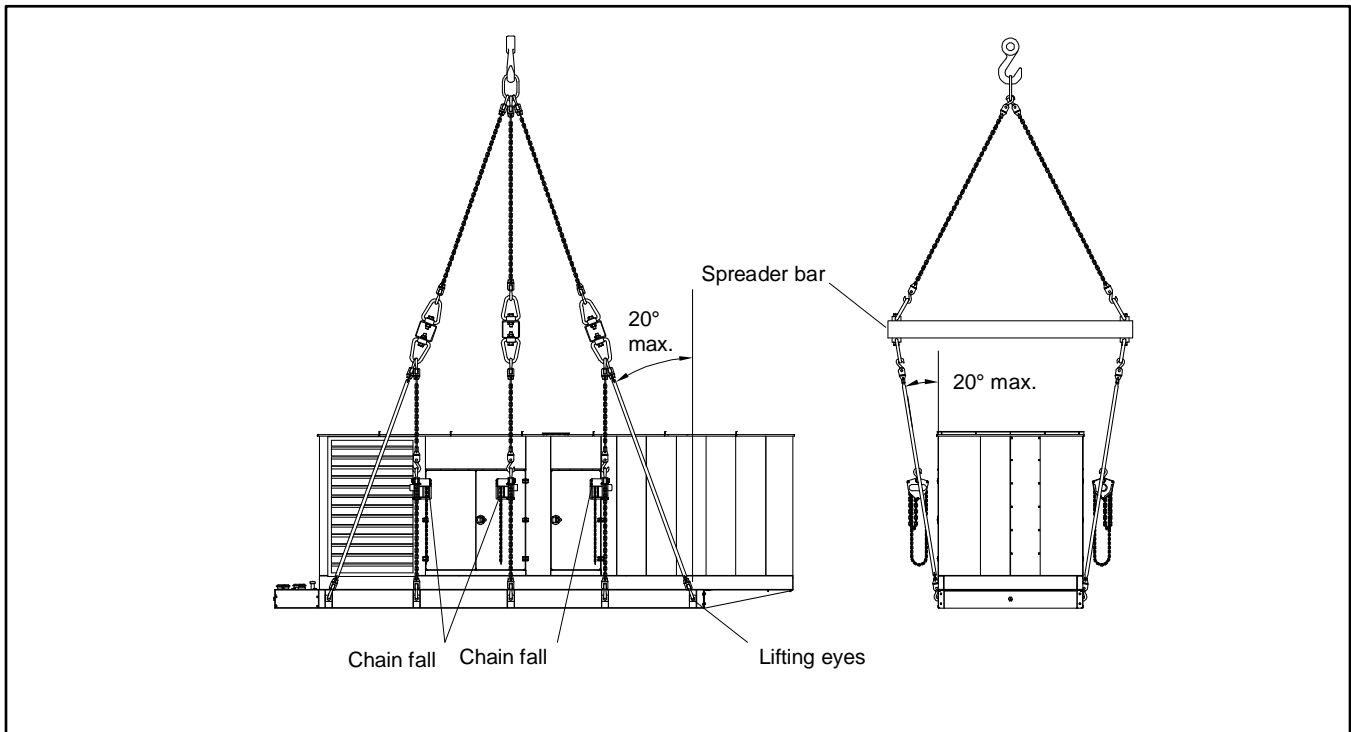

Figure 12 Ten Eyes, Three Spreader Bars, and Six Chain Falls Lifting Method
- Install a pair of outer slings up to the maximum angle as shown in Figure 12.